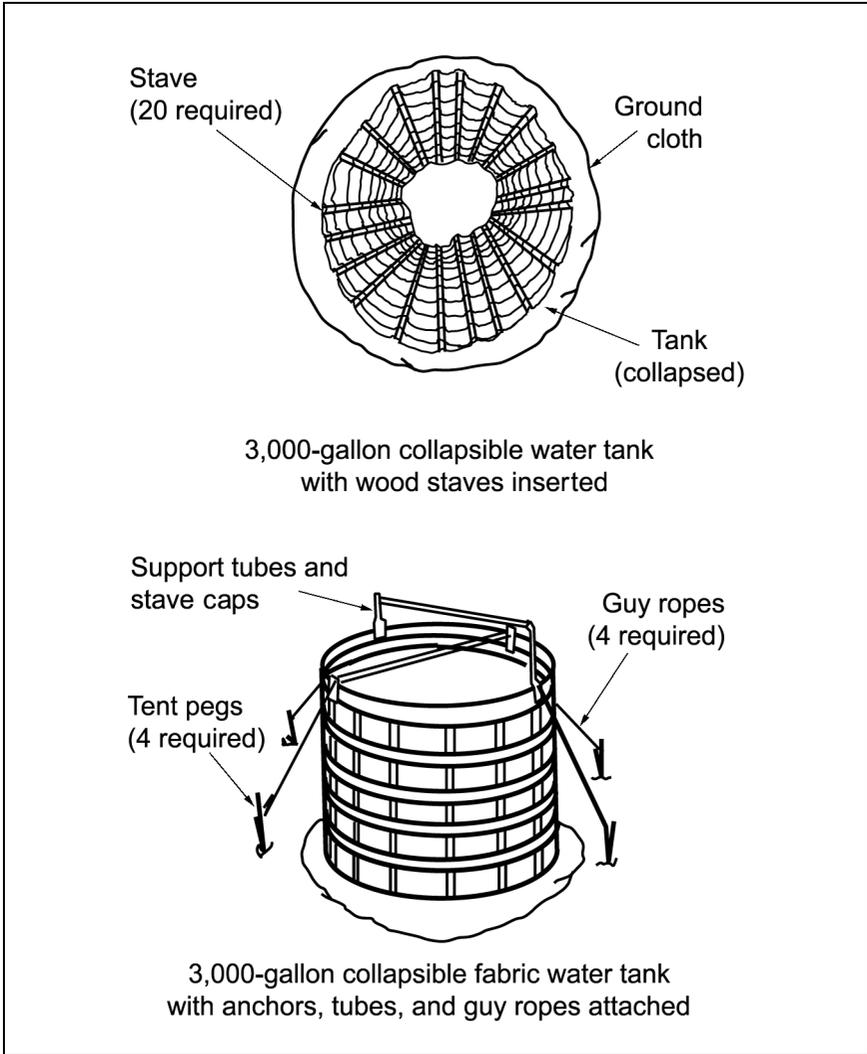

Figure 03-3-D0003-1. 1,580- or 3,000-Gallon Water Tank
2. The team emplaces the fabric water tank (see Figure 03-3-D0003-1, page 3-12). All team members—